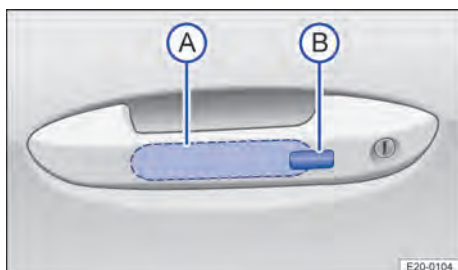

Fig. 58 In the door handle: sensors.
1. Touch the sensor → Fig. 58Ⓐ on the inside of the door handle.
2. Touch the sensor → Fig. 58Ⓑ on the outside of the door handle.
2. Touch the sensor on the outside of the door handle once within 5 seconds → Fig. 58 . Do not reach into the door handle.
1. Place a finger on the sensor of the driver or front passenger door handle for a few seconds → Fig. 58.